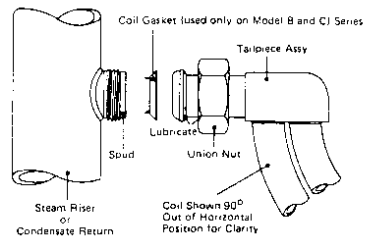
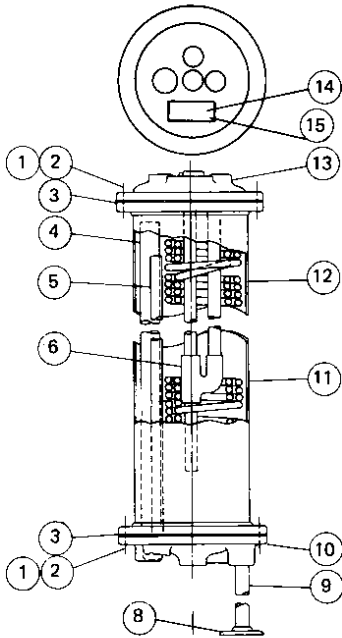

Figure 6 Assembly of coil to Steam Riser or Condensate Return
Figure 8 - Angely Hot Water Generator Models 1001A-1005A Assembly & Parts List
- B9. **If a coil must be replaced**, disconnect the unions using a single open end wrench, disconnect the unions holding the coils to the steam riser and condensate return. Be careful not to damage the spud threads (See Fig. 6).
- See figure 6. A coil gasket is required for each coil union in a Model B & C Heater (see figs. 8, 9 and 10 for the difference between Model A, Model B and Model C). It is recommended that coil gaskets be replaced whenever a coil is reassembled to a riser or return even though the coil is not being replaced. Snap the gasket into the riser or return spud.